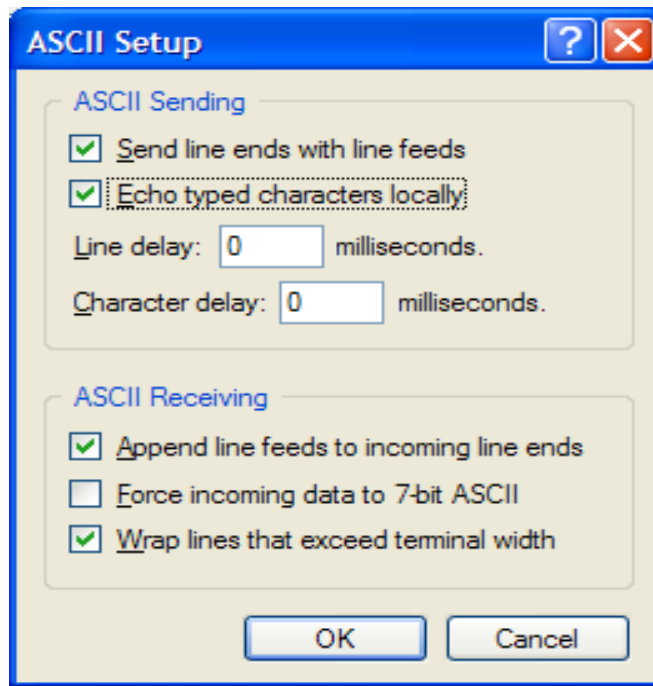

Figure 8-5. Additional Terminal Program Settings
- In the PC terminal program, set the properties in the optional settings as shown in Figure 8-5.